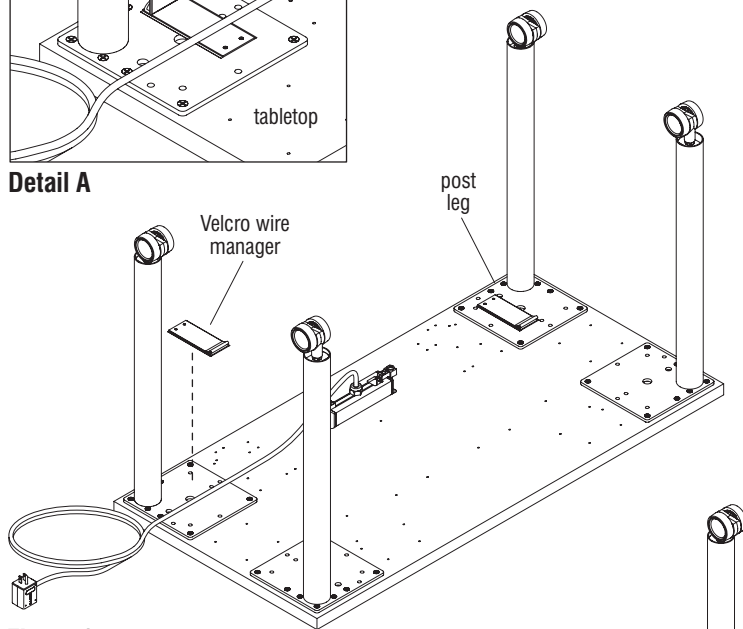

Figure 1
1. If the tables being assembled are 24"-30" deep or 36" deep by 84"-96" wide, position a Velcro wire manager over each post leg plate that requires a wire manager as illustrated, otherwise proceed to "Velcro Wire Manager to Work surface Installation" instructions below (Figure 1 & 2).
2. Remove the tape backing on each Velcro wire manager to expose the adhesive surface. Position each wire manager as illustrated over the post leg plate. Apply firm pressure to the Velcro wire manager to set the adhesive in place (Figure 1 & 2).